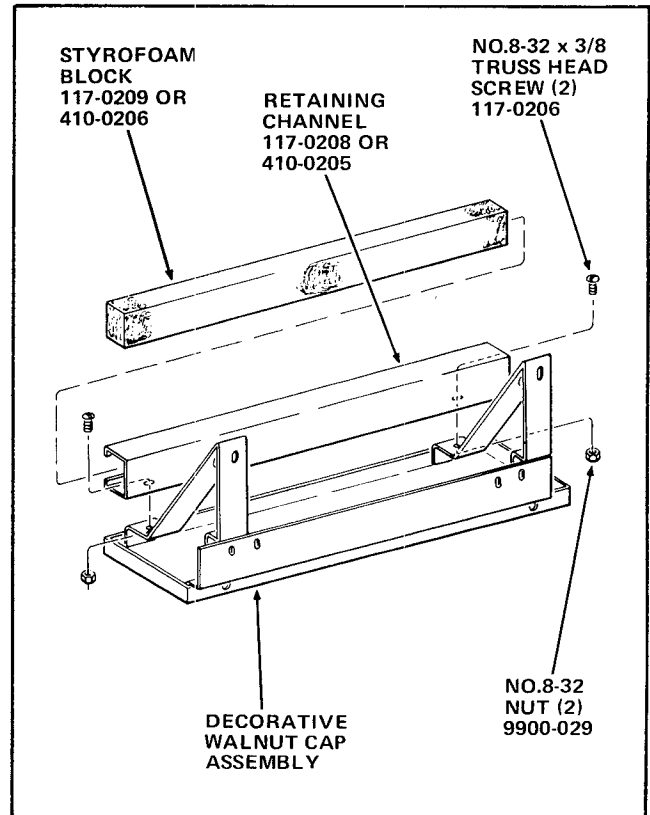

FIGURE 2
9. Place the Styrofoam Retaining Channel across the Cap Panel Brackets with the open side of the Channel away from you. Align the 2 holes in the Channel with the holes in the Brackets. See Figure 2.